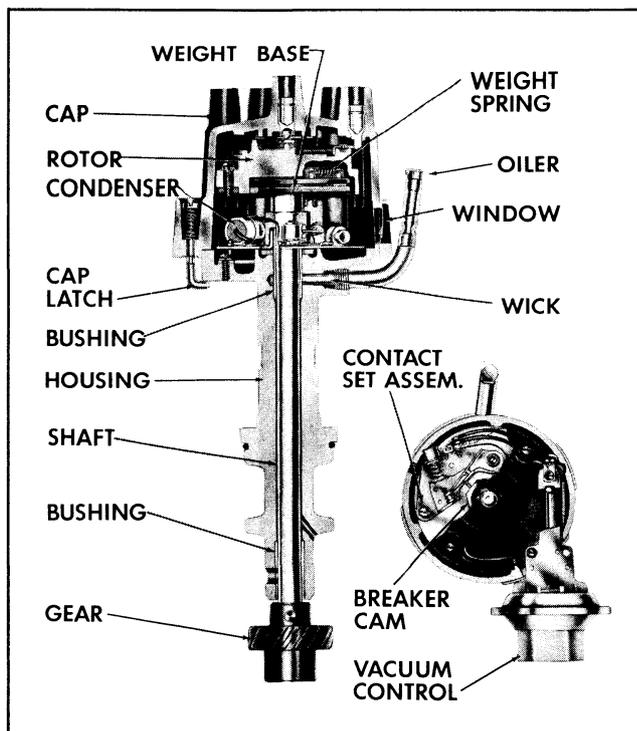

Fig. 13-35 Distributor Details
## DISTRIBUTOR FIG. 13-35
1. Remove the 2 vacuum advance attaching screws with an off-set screw driver. (See Fig. 13-35)